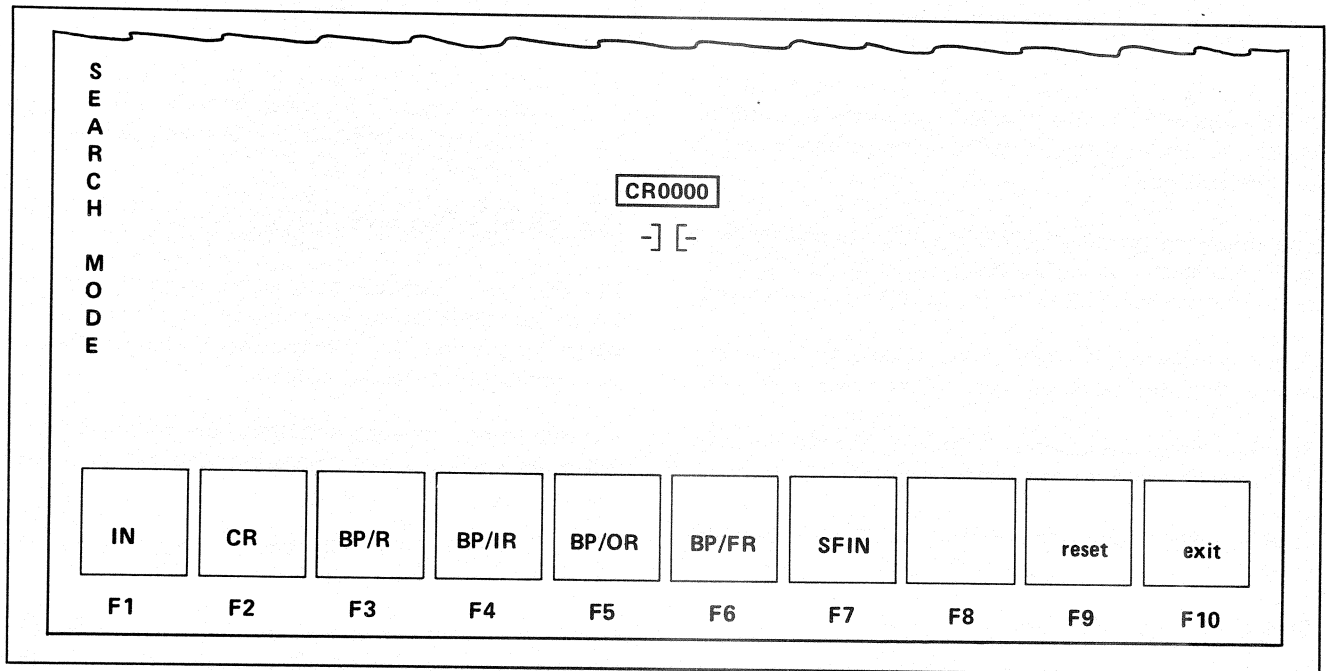

Figure 11-2. Contact Type Selection
**Step 1** – Press the F1, contact, function key to display the screen and function key selection shown in Figure 11-2.